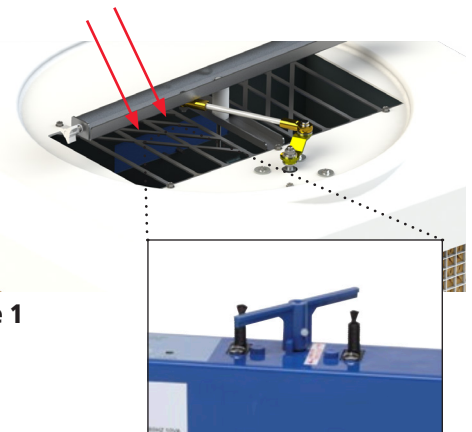

Figure 1
4. Use a brush wetted with distilled water and gently brush the two black carbon bristles as seen in Figure 1.